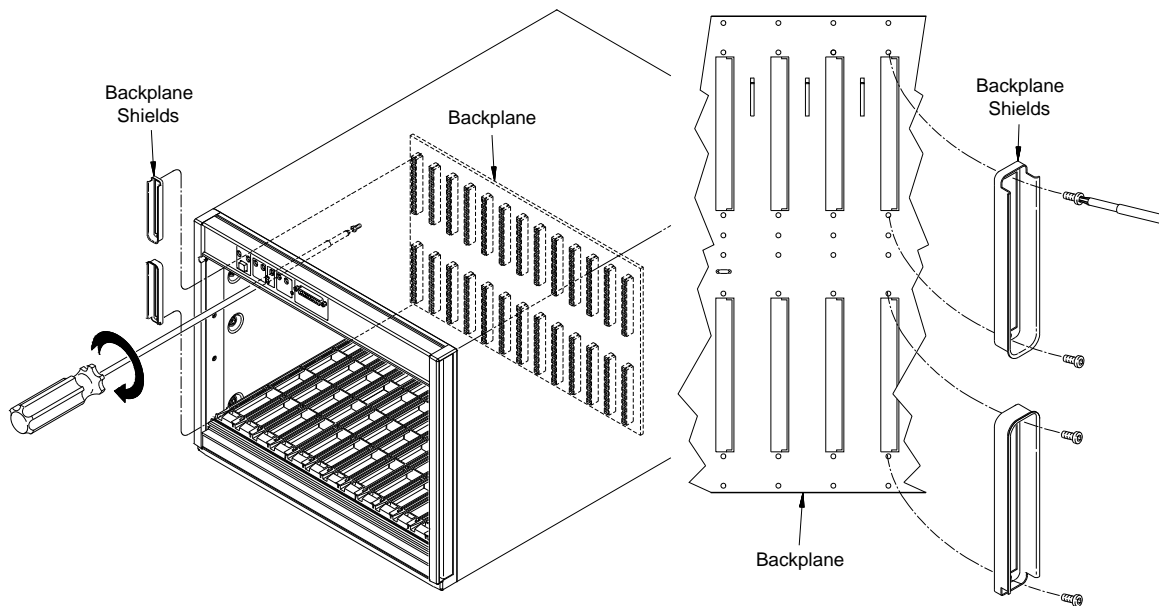

Figure 2-14. Positioning the Backplane Shields on the Connectors
1. Position the shields over the backplane connectors as shown in Figure 2-14. Two connector shields and four screws are required for each slot.